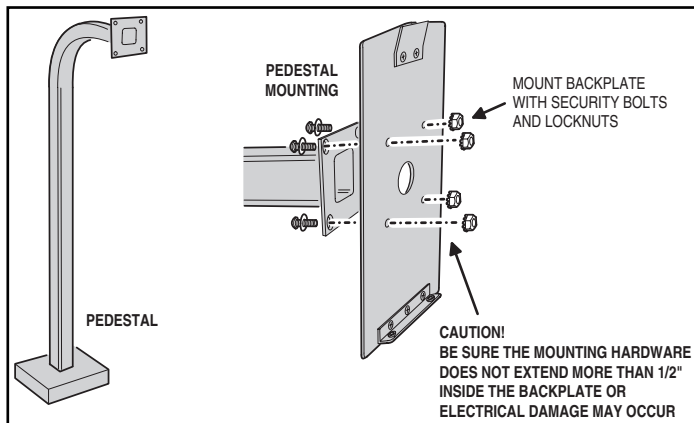

Figure 2. Pedestal Mounting Backplate
2. Use four security bolts and locking nuts to secure the backplate to the pedestal (see Figure 2).